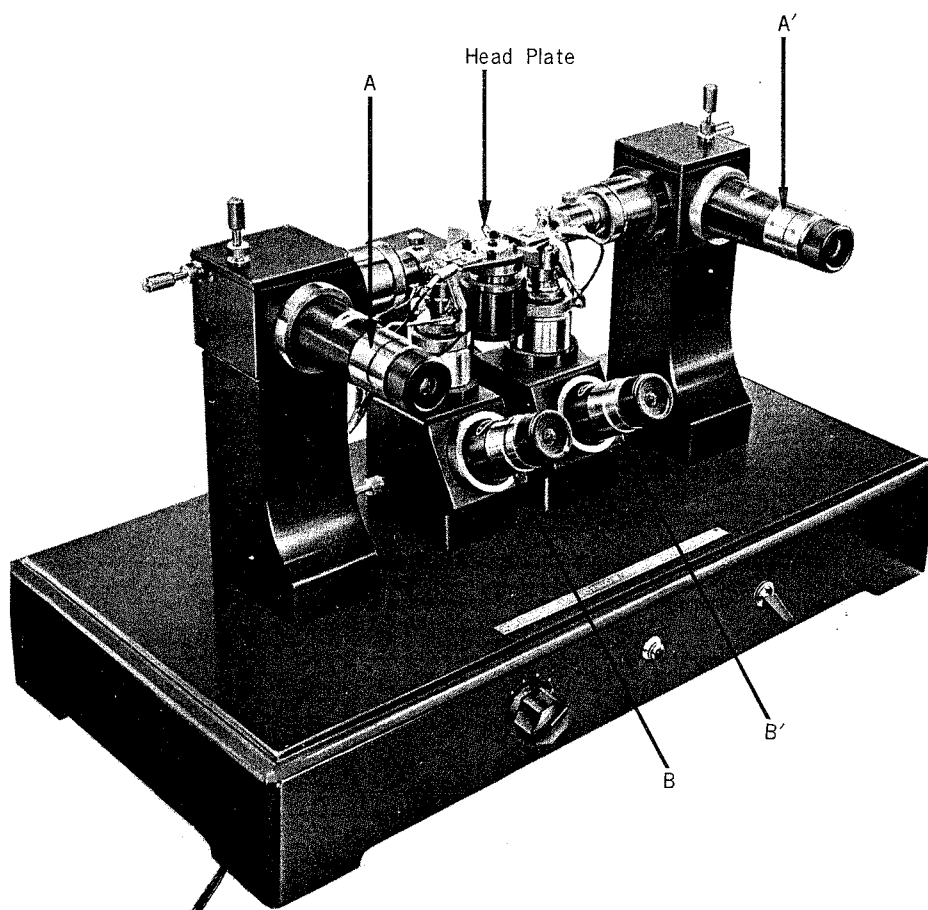

Fig. 1-12
(2) 180° Spacing and Protrusion of Video Head Tips
- Screw down the head plate at the center part of the microscope, positioning the brass plate so that it is located on the forward side of the head plate as shown in figs. 1-12 and 1-14.